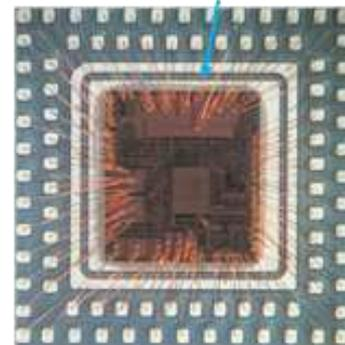

Figure 3. Example of Mechanical Barrier for RBO
- **Mechanical barriers.** In some cases, grooves on lead frames are designed in between die attach area and wire bond area to reduce resin bleed-out, as shown in figure 3. This is a simple